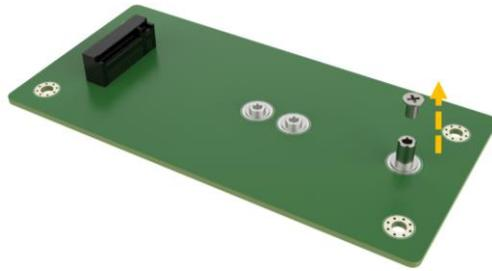

Figure 3-5: Remove the Retention Screw
Step 2: Remove the retention screw secured on the motherboard (**Figure 3-5**).